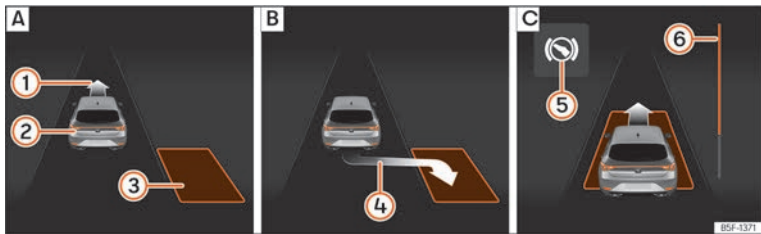
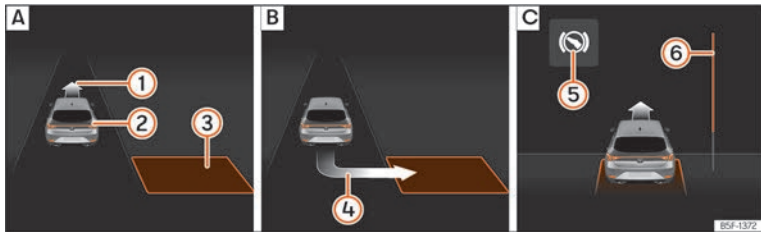

Fig. 152 On the instrument cluster display: angle parking. **A**: Finding a parking space **B**: Parking position. **C**: Manoeuvring.
Fig. 153 On the instrument cluster display: angle parking. **A**: Finding a parking space **B**: Parking position. **C**: Manoeuvring.
- Look at the instrument cluster screen to see if the space has been detected as “appropriate” and if the correct position for parking has been reached >>> Fig. 152 **B** or >>> Fig. 153 **B**. The space is considered “appropriate” if the instrument cluster display shows the parking indication ④.
- Reverse until the continuous ParkPilot signal sounds; **OR:** reverse until the indication to move forward appears on the instrument panel display >>> Fig. 152  or >>> Fig. 153 ; **OR:** reverse until the **Park Assist finished** message appears on the instrument cluster display. The progress bar  indicates the distance to cover.
- Move forward until the continuous ParkPilot signal sounds; **OR:** move forward until the reverse indication appears on the instrument panel display. The Park Assist system steers the vehicle forward and back until it centres it in the space >>> Fig. 152  or >>> Fig. 153 .
The progress bar >>> Fig. 152  and >>> Fig. 153  on the instrument cluster display shows the relative distance to be covered as a symbol. The greater the distance, the fuller the progress bar. When driving forward, the content of the progress bar decreases upwards, and when reversing, it decreases downwards.